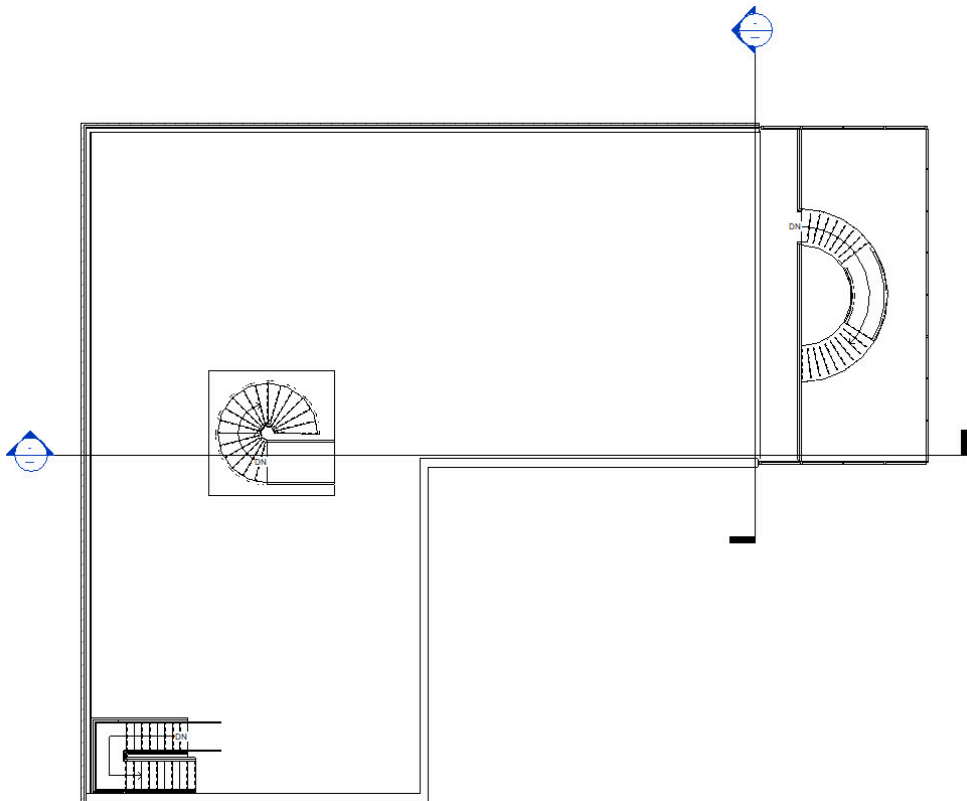

Figure 7.1 Section cuts shown in the Level 4 plan view
4. Click on the West side of the building to start the section cut then drag the cursor over and click to finish the section cut on the East side of the building as shown in Figure 7.1